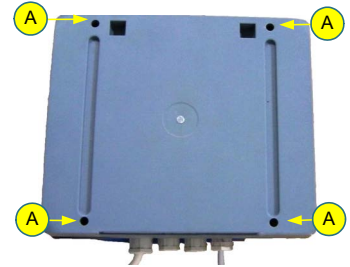
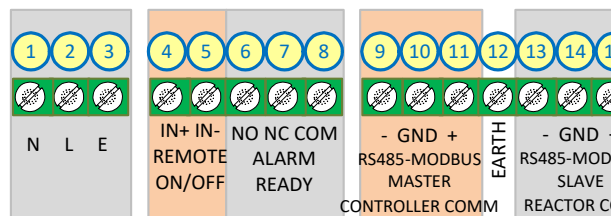

Figure 5-19: Control Module's Back
Figure 5-21: Control Module Terminal Connectors
Step 2. To connect an **External On/Off** signal, thread the signal cable through one of the holes with plastic glands on the bottom (5) and connect the wires to the appropriate connectors as show to the right (6) and as shown in Figure 5-21 as terminals 4 and 5 (corresponding to 6 in Figure 5-19).
Step 3. To connect a **General Alarm** signal, thread the signal cable through one of the holes with plastic glands on the bottom (5) and connect the wires to the appropriate connectors as show to the right (6) and as shown in Figure 5-21 as terminals 6, 7 and 8 (corresponding to 6 in Figure 5-19).
Step 4. To connect to an external facility control via Modbus, thread the signal cable through one of the holes with plastic glands on the bottom (5) and connect the wires to the appropriate connectors as show to the right (7) and as shown in Figure 5-21 as terminals 12, 13, 14 and 15 (corresponding to 6 in Figure 5-21). For more information, see Appendix A, **Modbus Communication Protocol** on page 160. Add jumpers to any unused pins as shown in the diagram below.
- a Unfasten the Data cable from the connectors as show to the above (7) as terminals 9, 10 and 11 (- GND +) (corresponding to 6 in Figure 5-19).
- b Loosen the plastic nut of gland (2) and pull it through and out of the plastic gland at the bottom.
- c Thread the longer Data cable through its plastic gland (2) and fasten it to the appropriate connectors mentioned above.
- Step 3.** Using the appropriate screwdriver, refasten the screws in the **Control Module** (A in Figure 5-19).